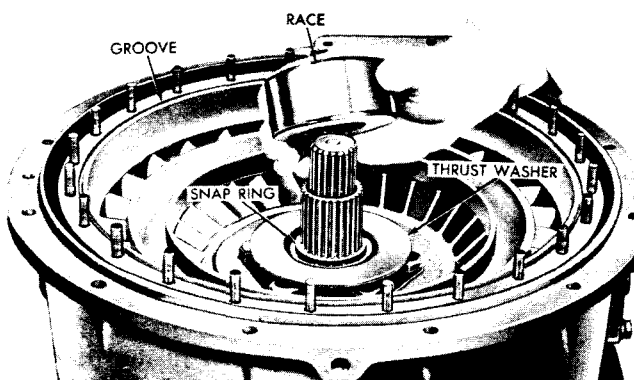

Fig. VII-30. Installing (or removing) freewheel roller race ^{S2516}
(5) Install the stator thrust washer and the snap ring which retains it (fig. VII-30).
(6) Install the stator freewheel race onto the ground sleeve (fig. VII-30).
(7) If the transmission has a "dry" converter housing (sect. II, para 2c), install the seal ring into the groove near the pump bolt circle (fig. VII-30).